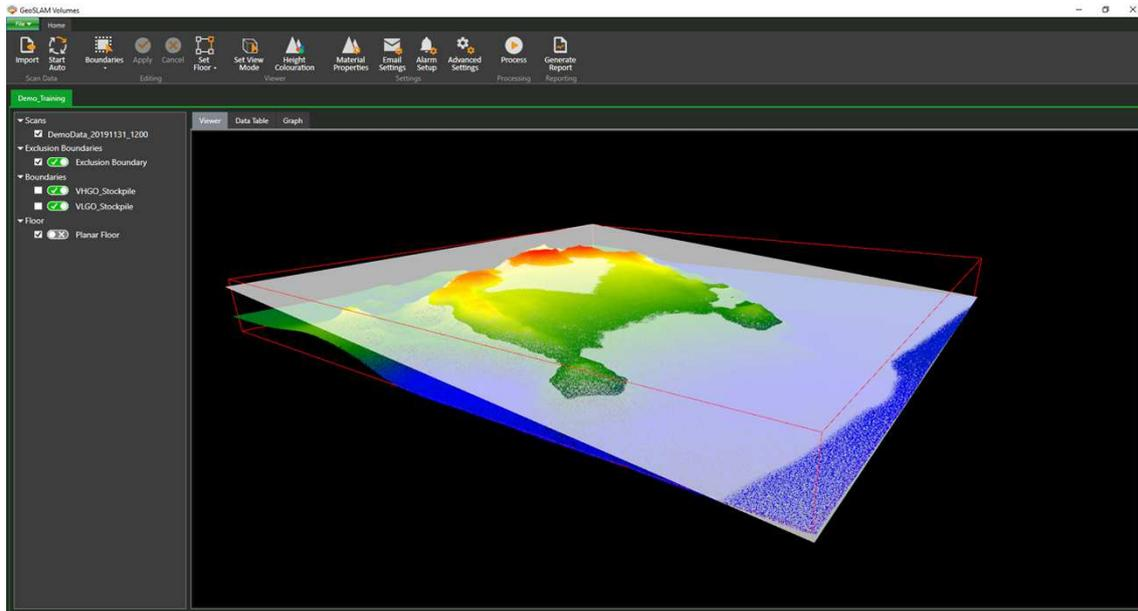

Figure 74. Created incline plane is displayed in the viewer.
6. With 3 points selected the inclined plane will be displayed (Figure 74).